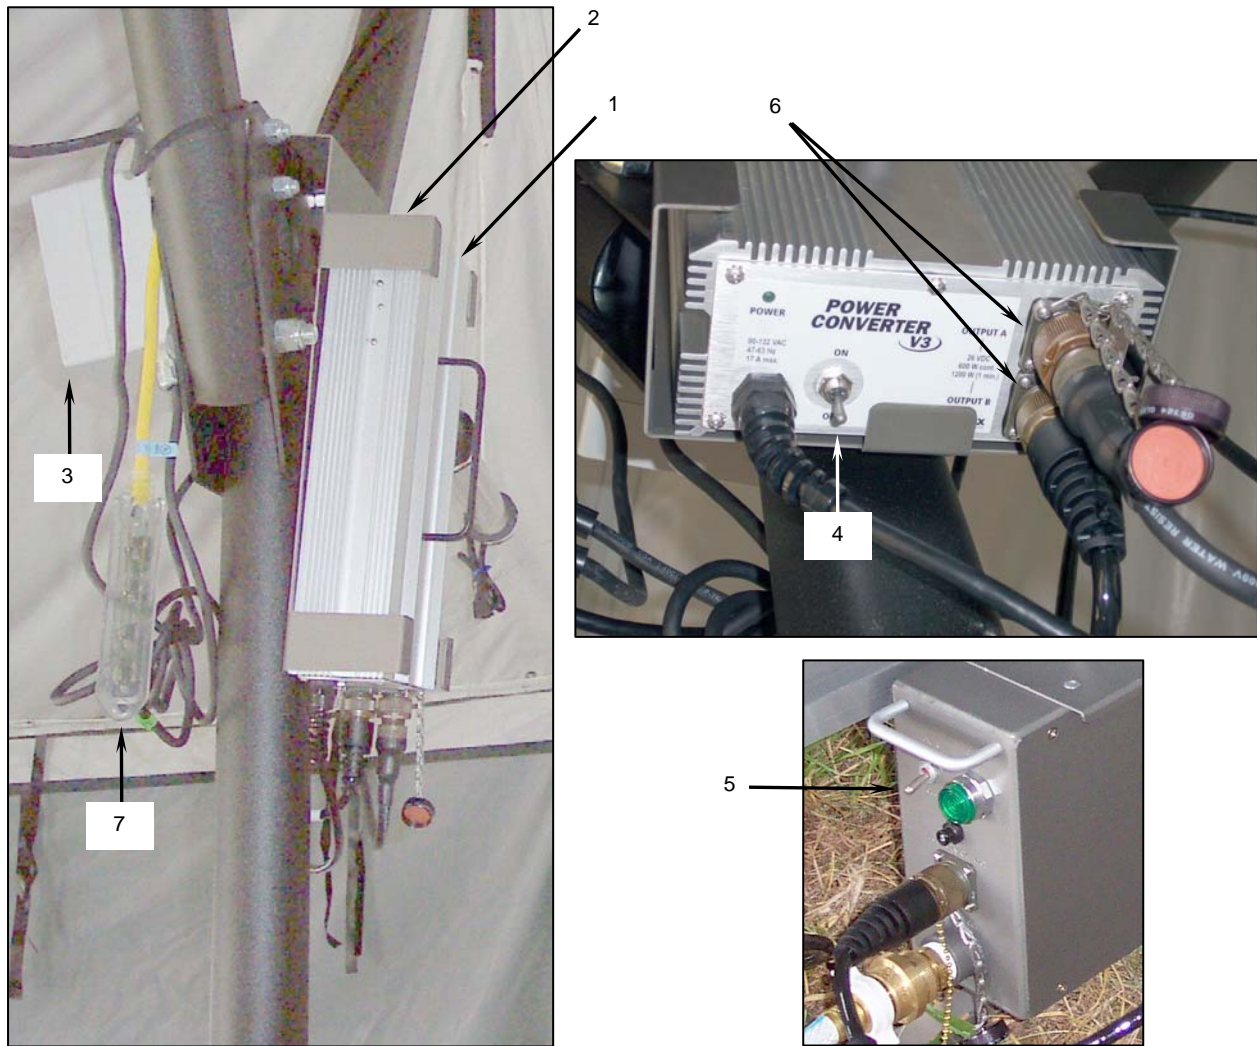

Figure 22. Power Converter Installation.
- n. Insert the power converter (**Figure 22, Item 1**) in its hanging bracket (**Figure 22, Item 2**) with the converter controls facing down.
- o. Hang the power converter and bracket assembly on the tent center pole opposite the CO monitor (**Figure 22, Item 3**).
- p. Ensure that the power converter power switch (**Figure 22, Item 4**) and the sink fill pump assembly power switch (**Figure 22, Item 5**) are both OFF.
- q. Connect the 25-ft DC cable to either of the two receptacles on the power converter (**Figure 22, Item 6**).
- r. Connect the grease separator power cable to the other receptacle on the power converter (**Figure 22, Item 6**).
- s. Plug the power converter power cable into an outlet on the end of the 100-ft extension cord (**Figure 22, Item 7**).